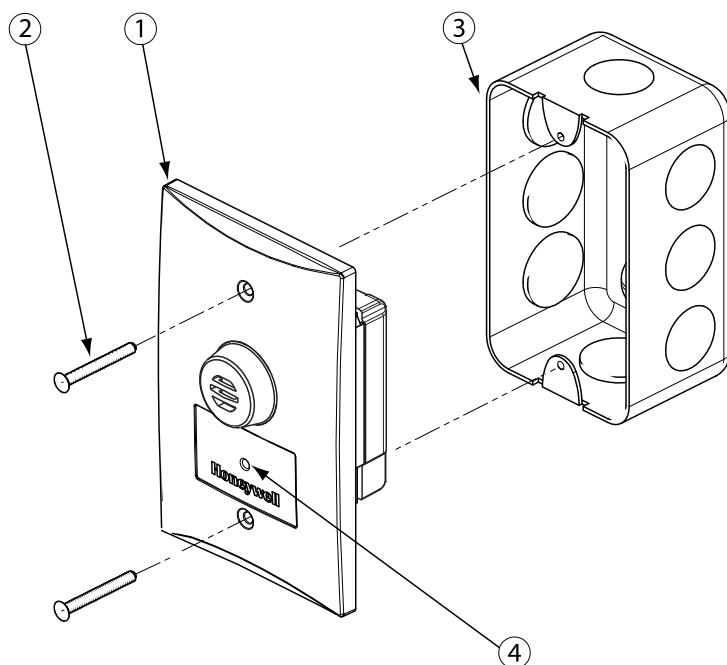

Figure 10. Parts of the Remote Sensor
- Connect the tubing from the regulator to the sensor calibration cap as shown in *Figure 10*.
- Connect the tubing from the regulator to the sensor calibration cap. See Figure 10.